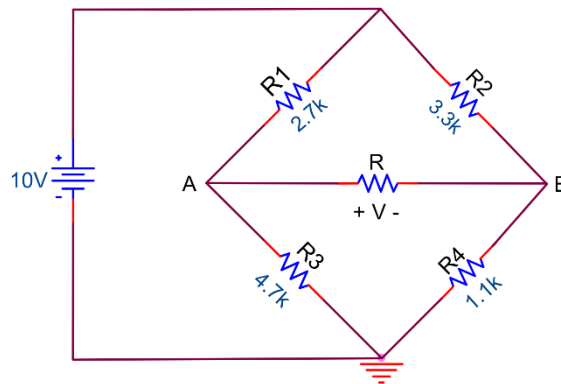

Figure 7.1
1. Calculate R_{TH} in Figure 7.1
3. Using the maximum power transfer theorem, Calculate the value of R which will result in the maximum power being delivered to R (see Figure 7.1).